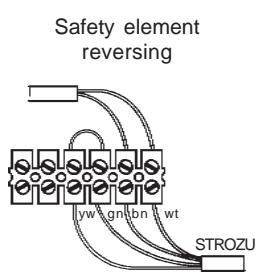

Fig. 8a
- Plug the rubber bungs of the branch box onto the cable and connect the cable to the luster terminals. Fig. 8a + b
- Lead the cable of the safety elements to the branch box and connect it according to Fig. 8a + b (bridging any missing element).
- Several elements can be wired to the unassigned terminals. Connect them via bridge connections with the power supply STROZU, according to Fig. 8a + b.